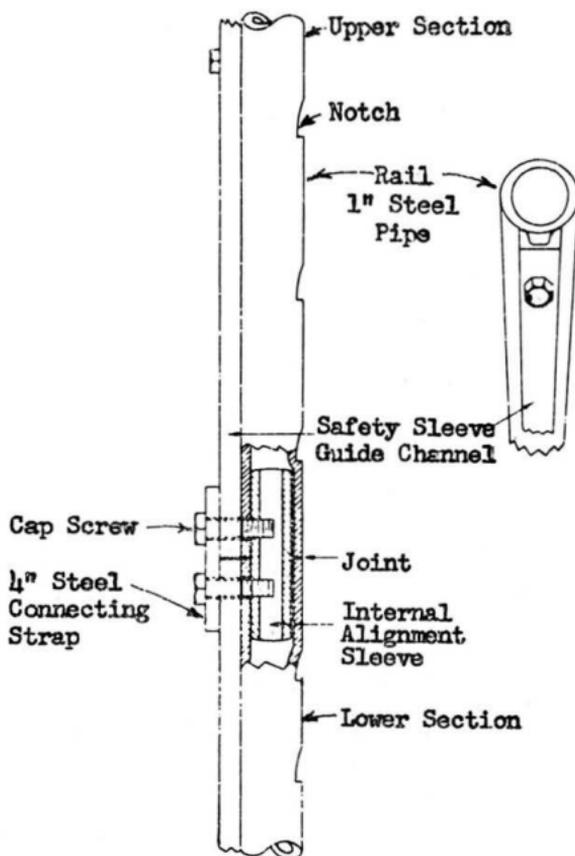

FIG. 3
3.06 The top of each length of carrier rail is equipped with a 4" connecting strap which is used to hold two adjacent sections of carrier rails together. A 6" inside alignment sleeve is provided to assure a smooth connecting joint. (Figure 3)